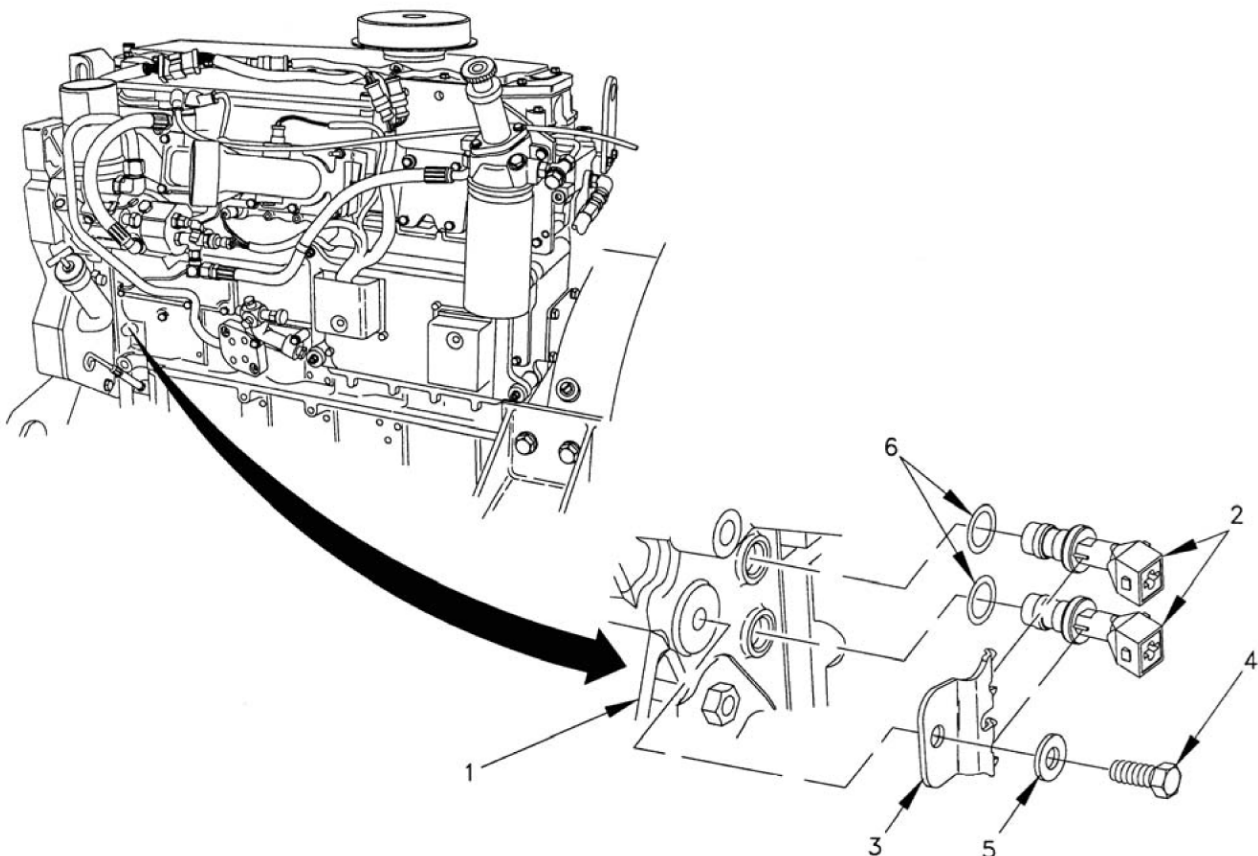

Figure 5. Timing Sensor Troubleshooting.
- STEP 6. If engine RPM is not indicated on the Cat ET, check the installation of the sensors (Figure 5).
- b. Visually inspect the sensor assembly without removing the sensor assembly from the engine. Flanges of sensors (Figure 5, Item 2) must be flush against engine (Figure 5, Item 1) in order to ensure proper operation.
- c. Inspect bracket (Figure 5, Item 3). Verify that the bracket securely holds the flanges of the sensors flush against the engine. Verify that the bracket is not bent. If the bracket is bent or if an obstruction is preventing the sensor assembly from being installed correctly, the engine will not start.
- d. Disconnect connector ENG-P4 from the primary (top) engine timing sensor and connector ENG-P5 from the secondary (bottom) engine timing sensor. Remove bolt (Figure 5, Item 4) and washer (Figure 5, Item 5) and remove the sensor assembly from the engine (Figure 5, Item 1).
- e. Ensure that one O-ring (Figure 5, Item 6) is installed on each sensor. Check the O-rings for damage. Replace the O-rings, if necessary.
- (1) Lubricate each O-ring (Figure 5, Item 6) with clean engine oil.
- (2) Fully seat the sensor assembly in the engine (Figure 5, Item 1). If the sensor assembly will not fully seat into the engine, replace the sensor assembly.
- (3) Install bolt (Figure 5, Item 4) and washer (Figure 5, Item 5) and tighten.
- (4) Connect connector ENG-P4 to the primary (top) engine timing sensor and connector ENG-P5 to the secondary (bottom) engine timing sensor. Verify that the connectors are latched on both sides.
- (5) Ensure that the harness is properly secured, and that the tiedown straps are placed in the correct location. Proceed to STEP 7.
- (1) Obtain a new sensor assembly (Figure 5, Item 2).
- (2) Lubricate each O-ring (Figure 5, Item 6) with engine oil.
- (3) Fully seat the sensor assembly (Figure 5, Item 2) in the engine (Figure 5, Item 1). Install the bolt (Figure 5, Item 4) and washer (Figure 5, Item 5).
- (4) Tighten the bolt (Figure 5, Item 4). If the sensor assembly will not fully seat into the engine, inspect the bracket (Figure 5, Item 3) for damage. Replace the sensor assembly (Figure 5, Item 2) with an undamaged assembly, if necessary.
- (5) Connect connector ENG-P4 to the primary (top) engine timing sensor and connector ENG-P5 to the secondary (bottom) engine timing sensor. Verify that the connectors are latched on both sides.
- (6) Ensure that the harness is properly secured, and that the tiedown straps are placed in the correct location. Retest and verify that the problem is resolved. Perform Engine Timing Sensor Calibration (WP 0012, SYMPTOM 11). If the problem is not resolved, proceed to STEP 7.